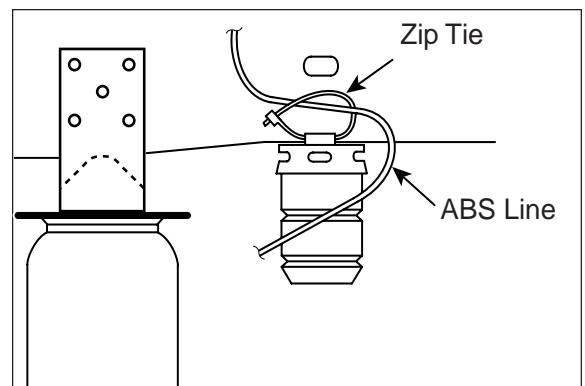

Figure 9
10. Re-attach ABS lines to the jounce bumper bracket using tie straps provided. Snug only, do not tighten tie strap tight (Fig. 9).
4. Should it become necessary to raise the vehicle by the frame, make sure the system is at minimum pressure (5 p.s.i.) to reduce the tension on suspension/brake components. Check to see that the air spring rolls back down over the bottom piston after the vehicle is lowered (Figure 9). If sleeve fails to roll back down over the piston, add air pressure until sleeve "pops" back over piston (do not exceed 100 p.s.i.).